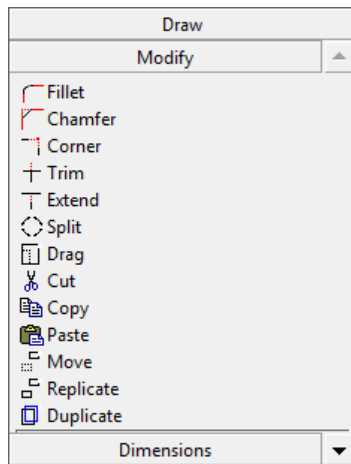

Figure 3-87 Tools in the **Modify** toolbox
14. Scroll down the **Modify** toolbox to display other tools, refer Figure 3-87. Next, choose the **Offset** tool from the **Modify** toolbox; you are prompted to select the line or arc to offset.